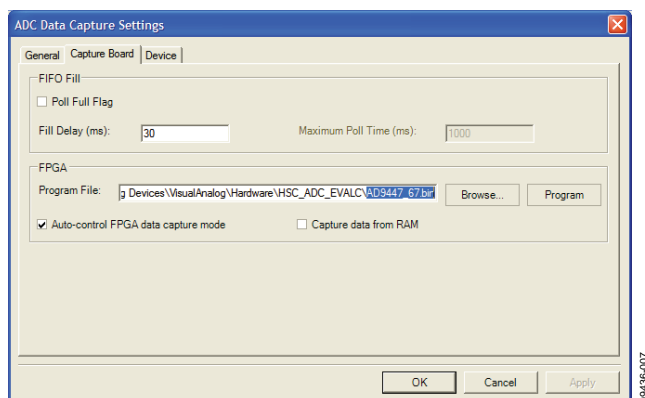

Figure 7. ADC Data Capture Settings, Capture Board Tab
4. Program the FPGA of the HSC-ADC-EVALCZ board to a setting other than the default setting as described in Step 3. Then expand the VisualAnalog display and click the **Settings** button in the **ADC Data Capture** block (see Figure 6). The **ADC Data Capture Settings** box opens (see Figure 7).